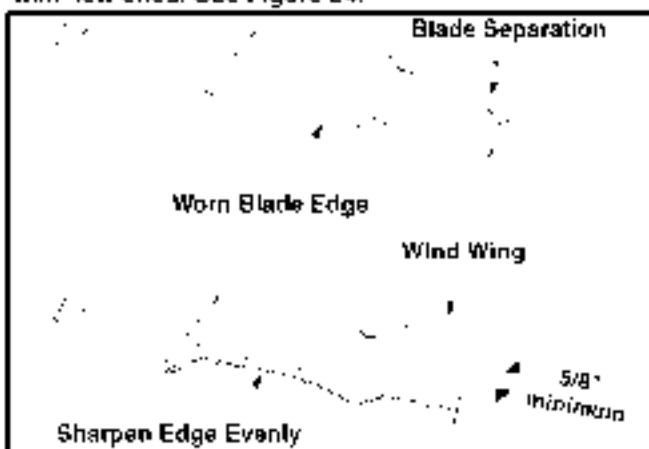

Figure 24
- To properly sharpen the cutting blades, remove equal amounts of metal from both ends of the blades along the cutting edges, parallel to the trailing edge at a 25° to 30° angle. See Figure 24.
IMPORTANT: If the cutting edge of the blade has already been sharpened to within 5/8" of the wind wing radius, or if any metal separation is present, replace the blades with new ones. See Figure 24.